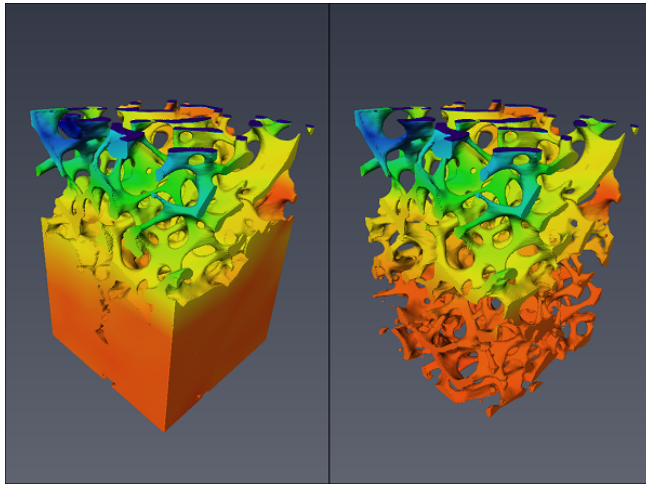

Figure 21.17: 3D Visualization of the Axial Strain in the Bone-Cement (left) and Bone phase (right)
- Using the *Buffer* port, click on **Clear** action button then select a Material of interest (bone or cement) and click on **Add** action button to display it. (see Figure 21.17).